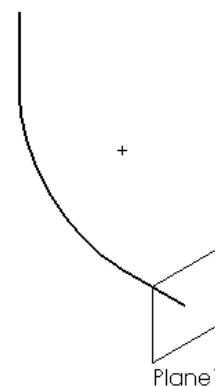

Figure 9-107 Plane created normal to path
- Invoke the **Plane PropertyManager** and using the **Normal to Curve** option, create a plane normal to the path as shown in Figure 9-107.